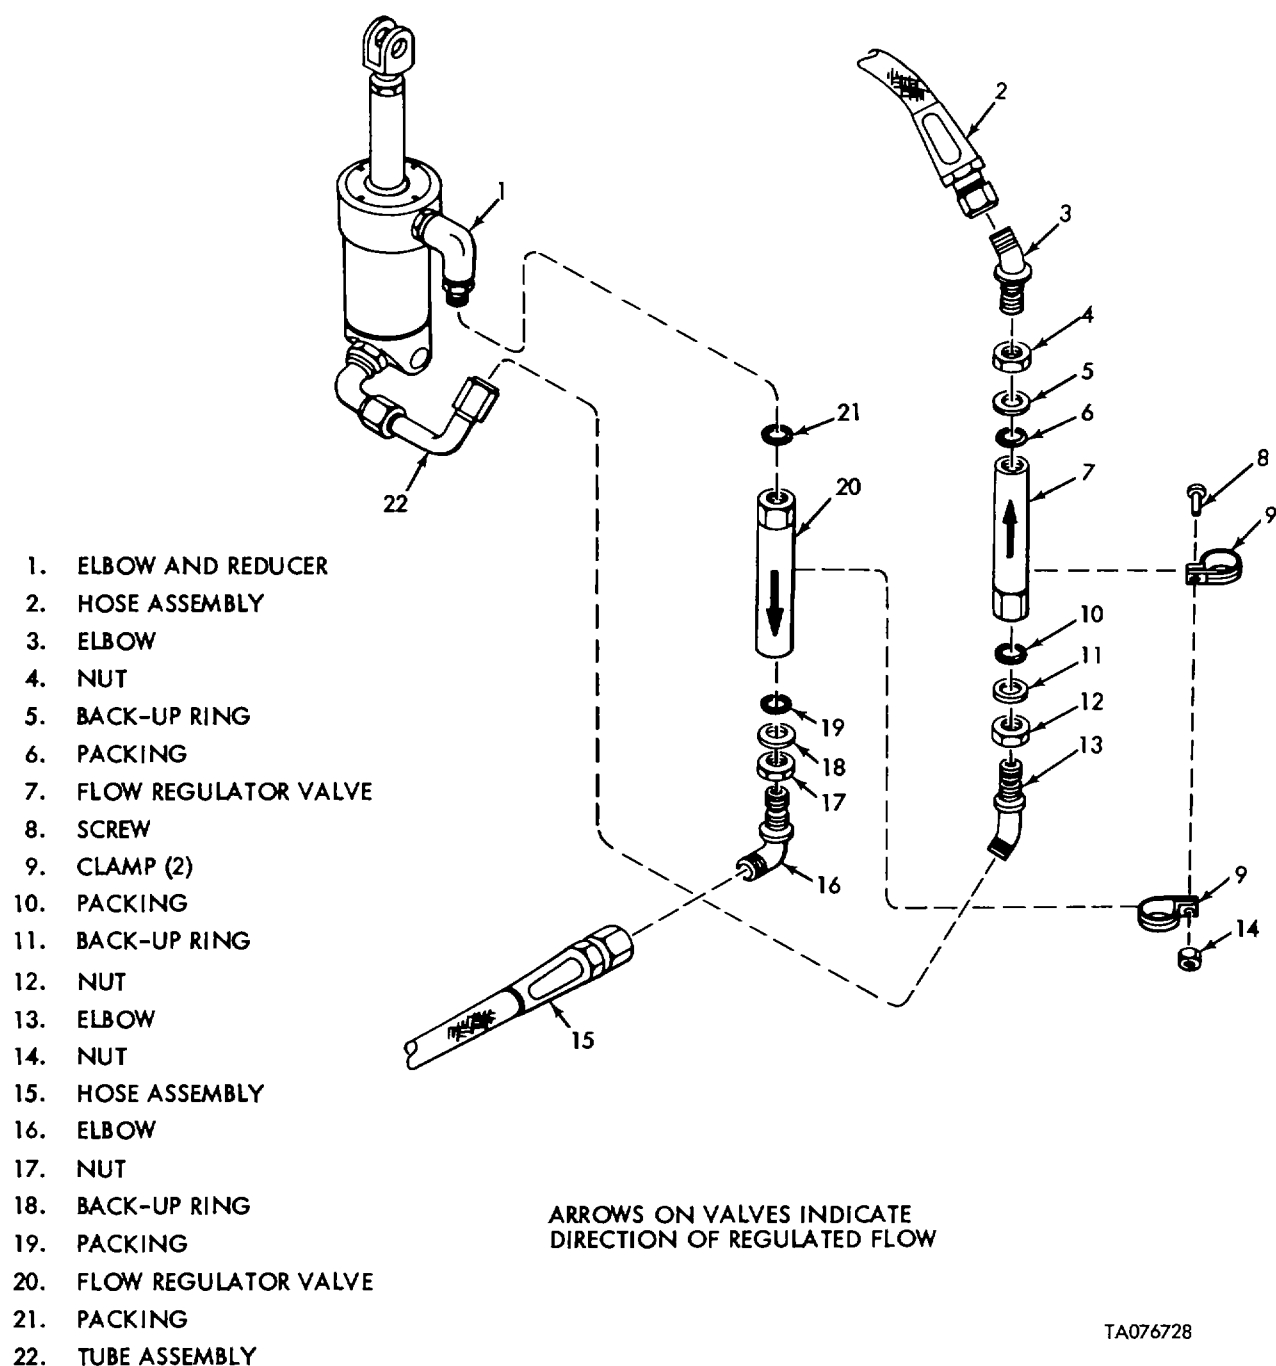

Figure 3-34. Elevation Cylinder - Flow Regulator Valves Removal
a. Removal (fig. 3-34).
- (1) Place vehicle in park position, fully retract elevation cylinder piston and cycle all manual control valves to relieve hydraulic system pressure.
- (2) Disconnect hose assemblies (2 and 15) from elbows (3 and 16). Install protective caps on the open ends of the hose assemblies to prevent system contamination.
- (3) Loosen nuts (4 and 17) and remove elbows (3 and 16), nuts (4 and 17), backup rings (5 and 18), and packings (6 and 19) from flow regulator valves (7 and 20).
Observe directional flow arrow on valves. They must be pointing in same relative direction as shown in figure 3-34.